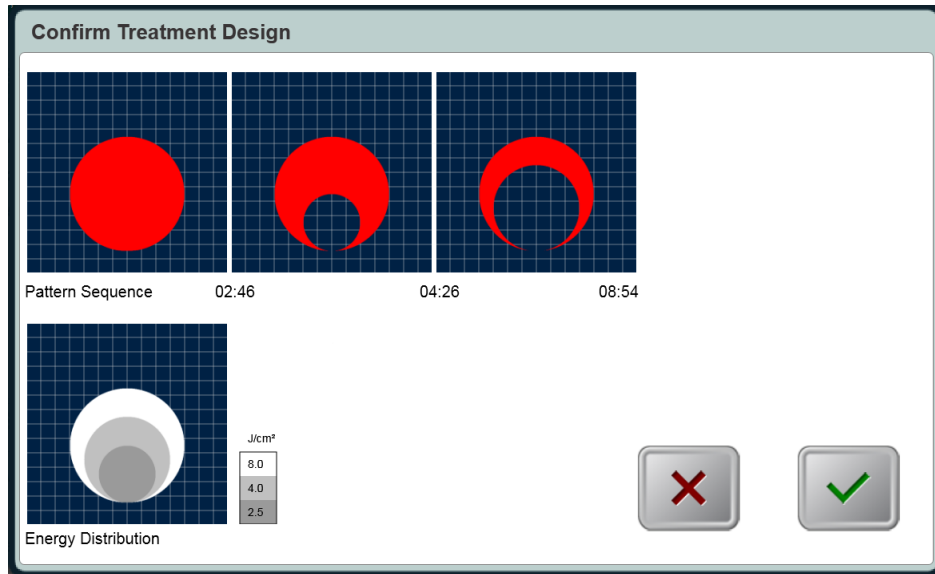

Figure 5-12. Confirm Treatment Design Window
- As depicted in Figure 5-12, the Confirm Treatment Design window shows a timeline of the various shapes that the UV beam will make during the course of the treatment.